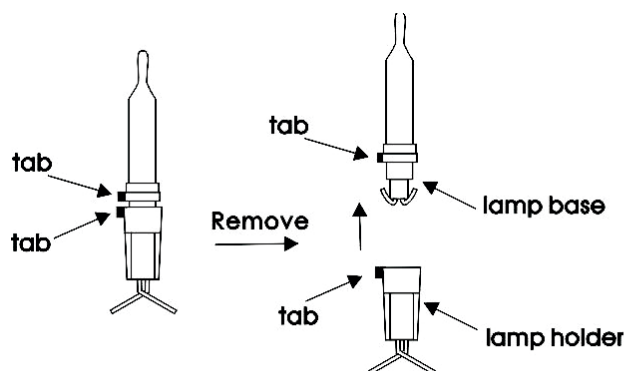

Fig.1 Remove the burnt out bulb.
- b) Pull lamp and plastic base straight out of lampholder as shown in Fig.1.